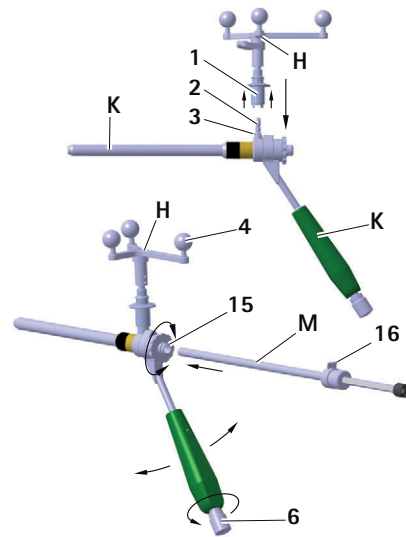

Fig. 13 Mounting the Aesculap star unit onto the S⁴C guide sleeve; Inserting the S⁴C drill guide
- To ensure that the camera has an unrestricted view of the reflective marker spheres, loosen knob **6** on the S⁴C handle of the S⁴C guide sleeve **K** and rotate Aesculap star unit **H** to the desired position, see Fig. 13.
- ▶ Slide the inner drill sleeve **M** onto the inner sleeve **15**. The inner guide sleeve engages on the inner sleeve and can still be rotated, see Fig. 13.